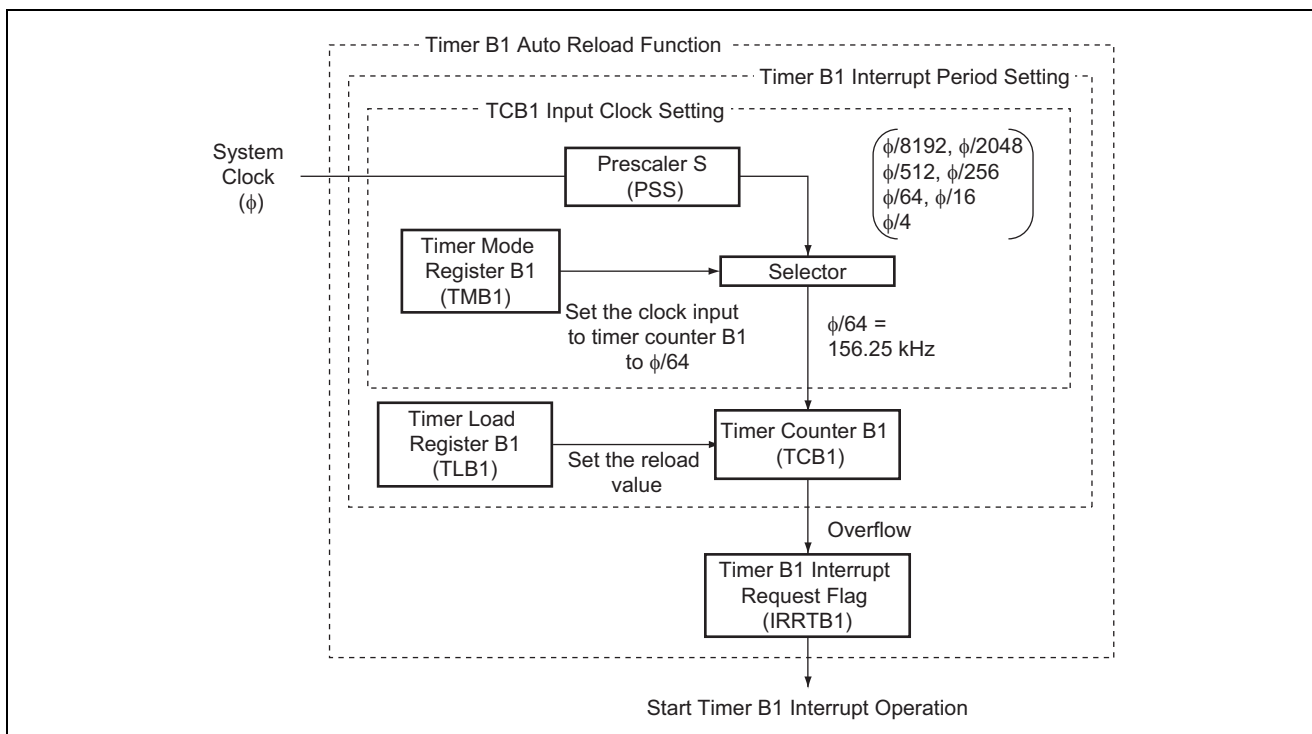

Figure 1 Timer B1 Auto Reload Function Block Diagram
- A. Figure 1 shows the block diagram of the Timer B1 auto reload function which is described as follows: